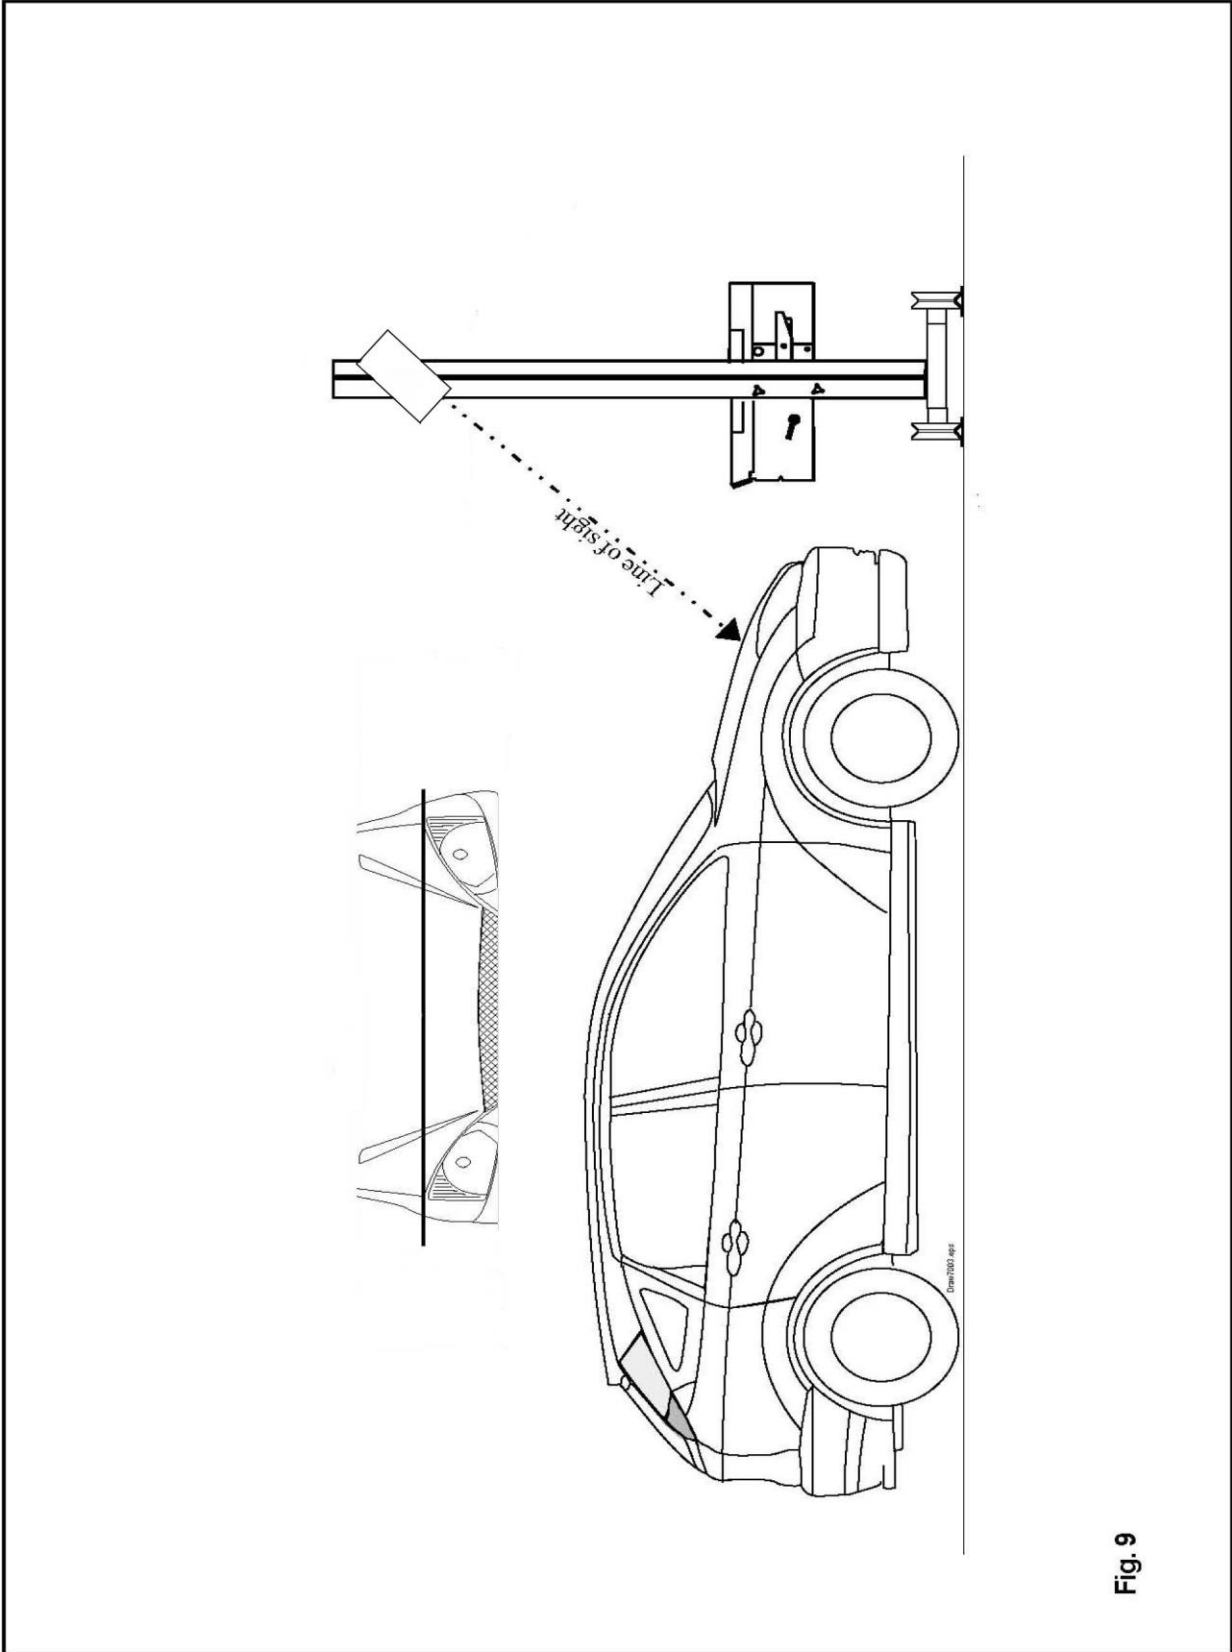

Fig. 9
- Check that the line of the laser accurately bisects both points. See Fig. 9